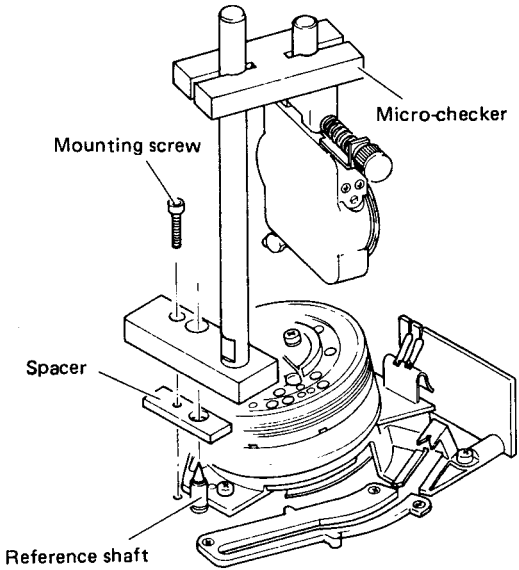

Fig. 1-5-2 Micro-character mounting
- 3) Set the micro-checker on the reference shaft as shown in Fig. 1-5-2. Use a hex wrench (metric) to tighten the mounting screw.